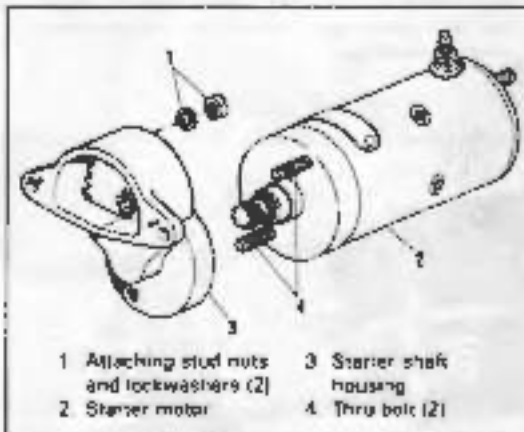

Figure 5-27 Removing Starter Motor
Disconnect solenoid cable from starter motor terminal. Remove attaching nuts and lockwashers (1, Figure 5-27) which fasten starter motor housing (3) to studs on chain housing. Remove starter motor end support plate (not shown) from transmission. It may be necessary to loosen and raise battery carrier to provide clearance. Remove starter motor (2) and starter shaft housing (3) from motorcycle as an assembly.